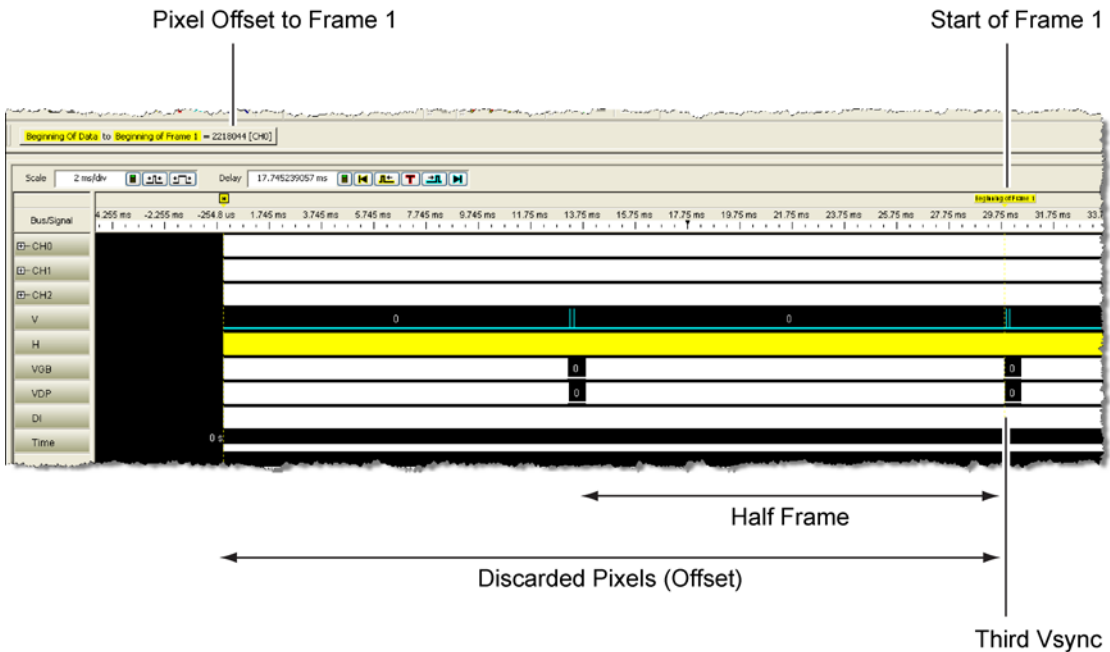

Figure 50 Pixel Offset is Greater than 50% of Frame Width
- greater than 50% of frame width, then the first frame begins at the last falling edge of the VDP to precede the third VSYNC. See Figure 50.